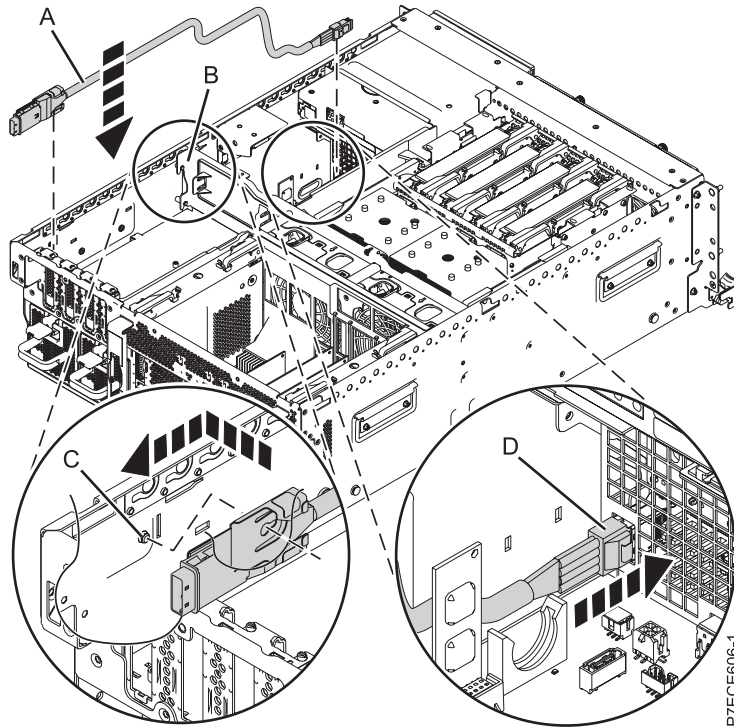

Figure 58. Replacing the SAS cable
4. Connect the SAS shroud of the SAS cable (**A**) to the external SAS connection port on the system backplane, at the rear of the system, until it snaps in place, as shown in Figure 58 on page 91.